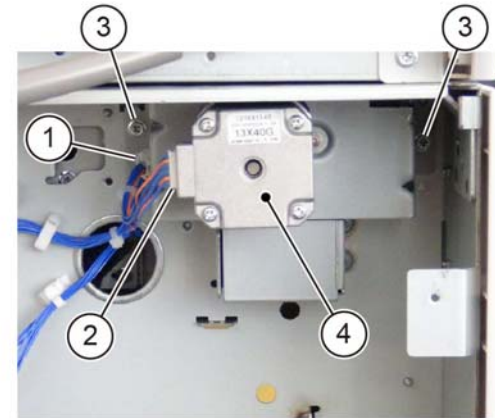

Figure 2 1TM takeaway motor removal
2. Remove the 1TM takeaway motor, Figure 2:
- a. Release the clamp (1).
- b. Disconnect the connector (2).
- c. Remove two screws (3).
- d. Remove the 1TM takeaway motor (4).